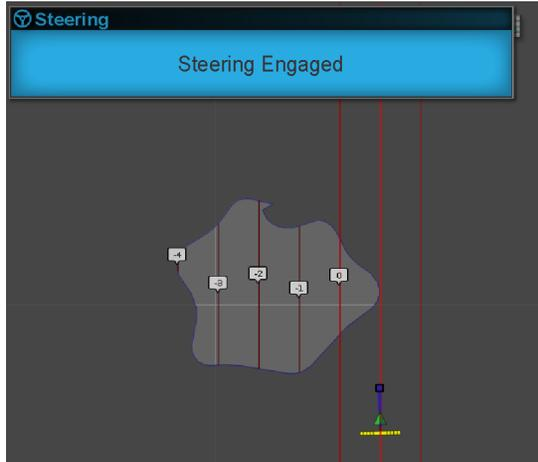

Figure 3
- STEERING ENGAGED—a visual alarm displays when the steering assist function engages (Figure 3).